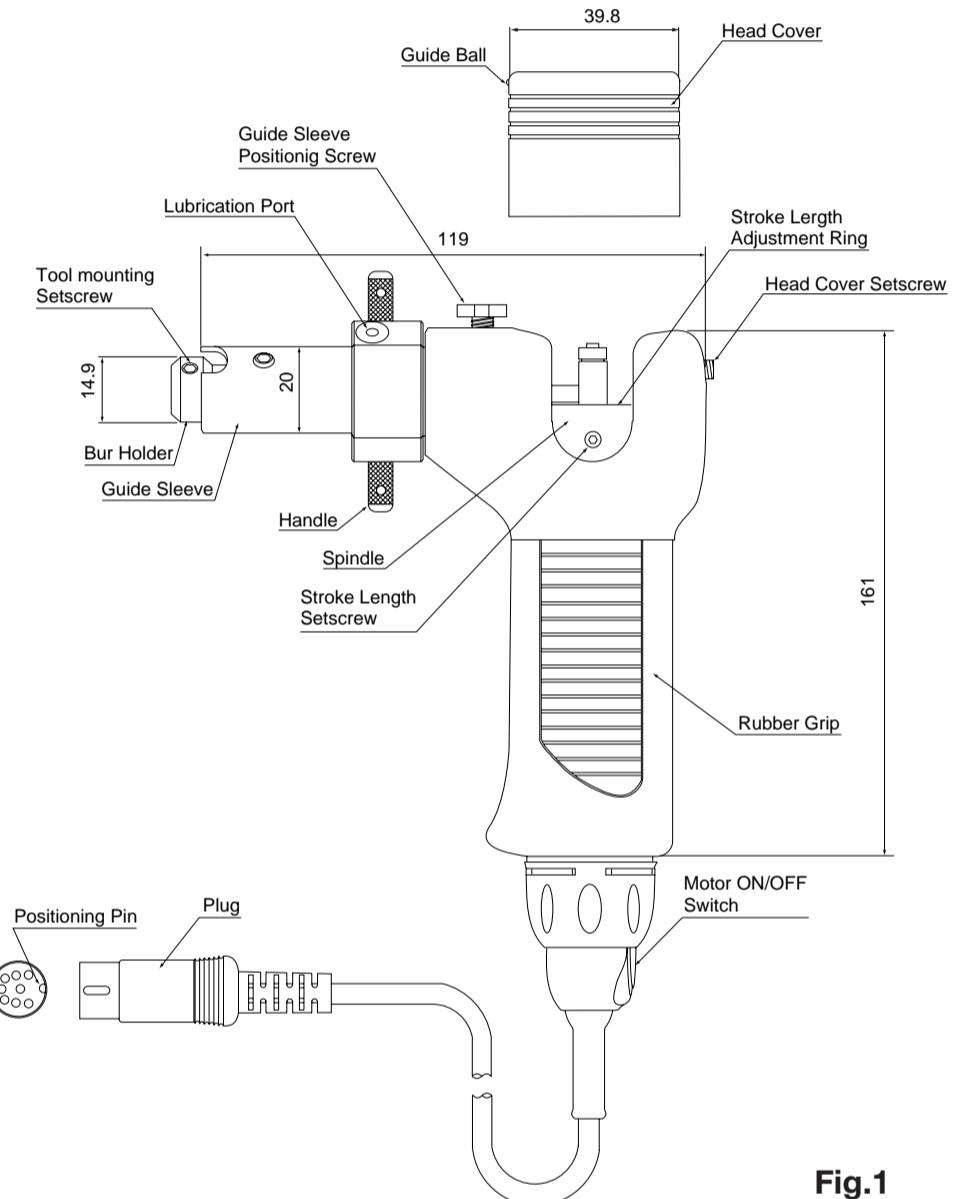
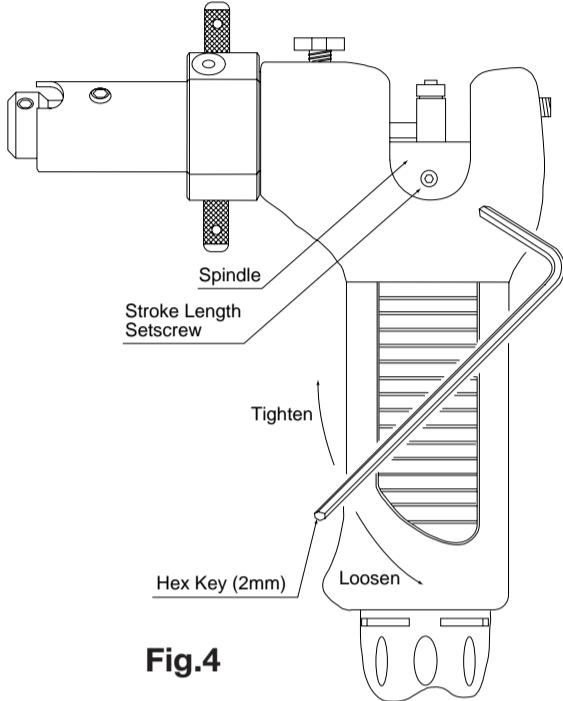

Fig.1
Fig.4
- Align the cord plug with the jack of the control unit and push in. (Fig.1)
ON/OFF of the motor can be made either at the grip or at the control unit. (Fig.1)
- ① Loosen the head cover setscrew with the supplied hex key (2 mm) (Fig.1).
- ② Slide the head cover upward and remove. (Fig.1).
- ③ Loosen the stroke length setscrew with the hex key (2 mm). (See fig.4)
- ⑤ Tighten the stroke length setscrew with the hex key (2 mm). (Fig.4)
- ⑥ Insert the head cover and push it down, aligning the guide groove on LUSTER and the guide ball on the head cover.
- ⑦ Fasten the head cover setscrew with the hex key (2 mm) (Fig.1).
- ⑧ Choose the motor speed in accordance with the stroke length as shown in chart below.